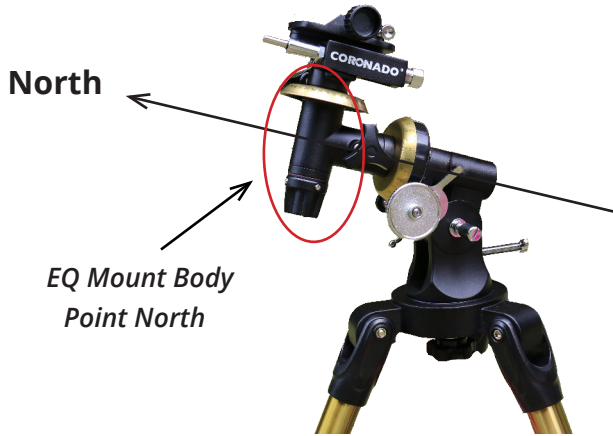

Figure 1.
1. Use a compass to help you to point the mount's "EQ Mount Body" (#8) towards north (*Figure 1.*) It is important ensure that the mount body is pointed north, **independent of where the actual telescope is pointed.**